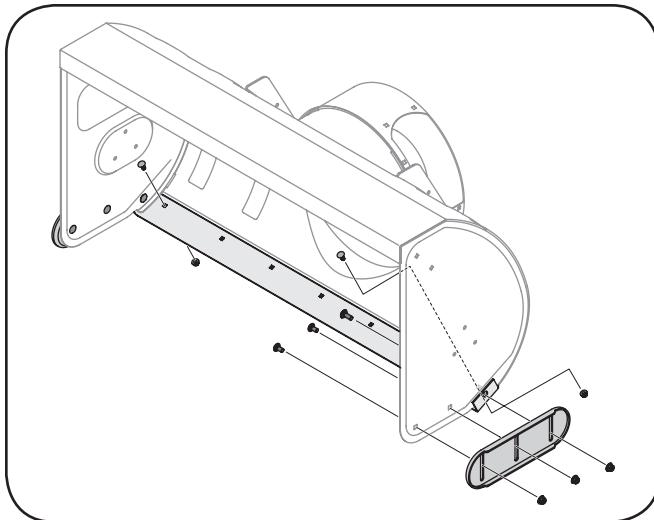

Figure 6-3
1. Remove the six carriage bolts and hex nuts that secure the two skid shoes to the sides of the auger housing. Refer to Figure 6-3.
1. Remove the hex nuts and carriage bolts that secure the shave plate to the bottom of the housing. See Figure 6-3.